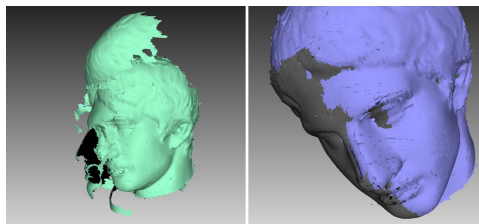

Figure 8.35.: Global-registration errors: wrong settings on left and gap between scans on right.
- After the global-registration algorithm finishes, the frames are in disarray (see Figure 8.35., left) or the frame positions are unchanged. This error occurs because the application is configured for a different scanner type than the one that captured the data. Change the device type in the application settings (see Algorithm Settings).
- The algorithm has completed successfully, but a gap exists between two or more scans (see Figure 8.35., right). Select just these scans in the *Workspace* panel and run the global-registration algorithm. If the scans have drawn closer to each other but have failed to align after the algorithm finishes, increase the number of iterations and rerun the algorithm. Repeat this process until you achieve full alignment, then run global registration once again for all data. If you are unable to align several problematic scans, try aligning just two of them, then gradually increase the number of scans until all of them are aligned.